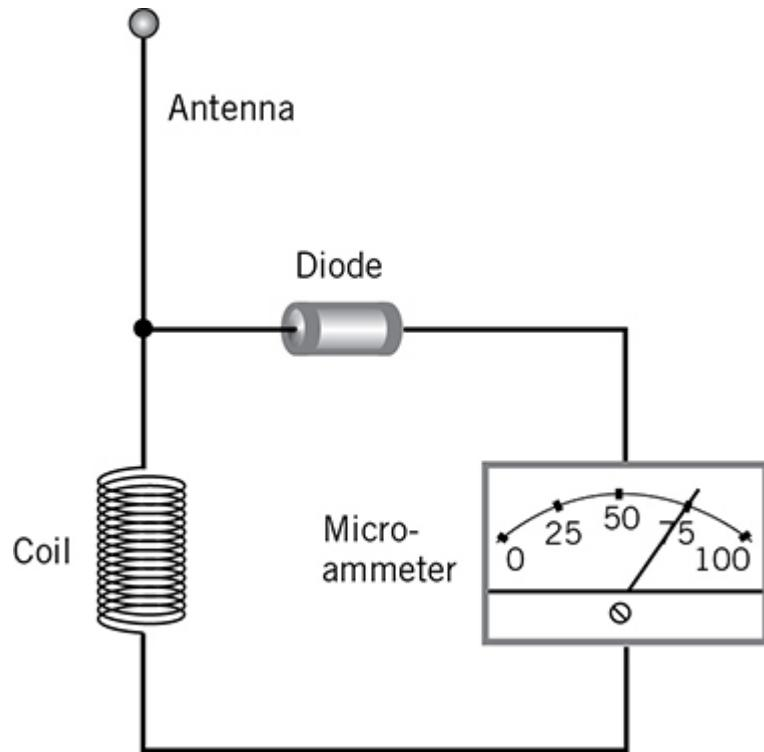
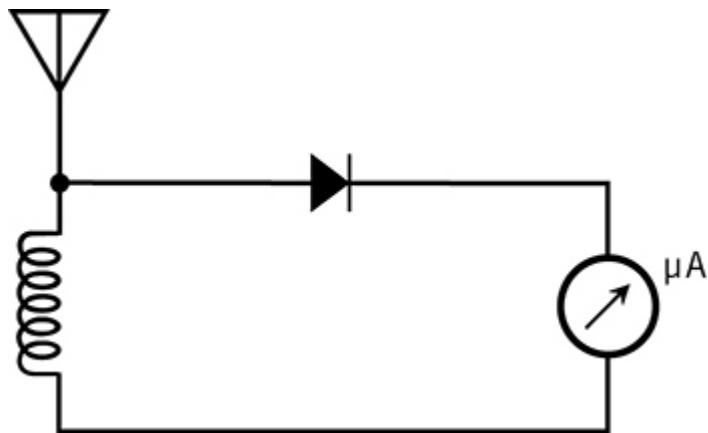

FIG. 4-8 Pictorial of an RF field-strength meter circuit.
FIG. 4-10 Schematic of the RF field-strength meter.
Figure 4-8 is a pictorial drawing of an *RF field-strength meter*. Radio engineers sometimes use this type of meter to see whether or not an RF electromagnetic (EM) field exists at a given location. You’ll find this device handy if you want to locate the source of something that’s causing RF interference to your amateur or shortwave radio receiver. The circuit consists of a small whip antenna, an RF diode, a microammeter (a sensitive current meter graduated in millionths of an ampere), and an inductor.
Figure 4-10 is a schematic of the field-strength meter shown pictorially in Fig. 4-8. This drawing involves nothing more than substitution of the schematic symbols for the pictorial symbols. When you assemble the meter, the parts need not go in the same *physical locations* as the schematic implies, but you should connect them in the same *sequence* as the schematic indicates.
When you build a circuit from a schematic, *triple-check* your component interconnections to ensure that they agree with the schematic. If you try to build the circuit according to Fig. 4-10 and make a mistake anywhere in the wiring (and it's easy to do), you can't expect the finished device to work. In some cases, a minor wiring error can cause major component damage!
In the circuit of Figs. 4-8 and 4-10, an EM field induces RF current in the antenna and inductor. That current constitutes high-frequency AC. The diode “chops off” either the positive or negative half of every cycle (depending how you connect it) to produce *pulsating DC* like the rectifier in a power supply for home appliances, but at a higher frequency. The microammeter tells you the current level. As the EM field gets more intense, the current increases, and the meter reading goes up.